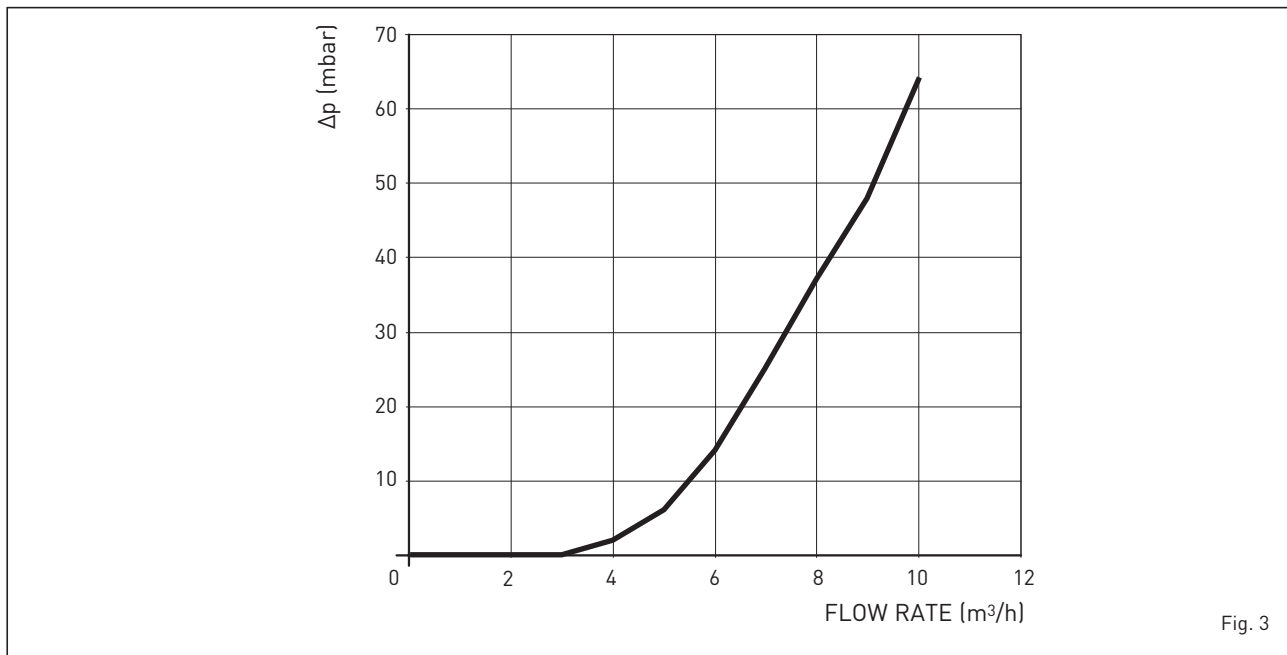

Fig. 3
1.5 LOAD LOSS IN HYDRAULIC SEPARATOR SUPPLIED UPON REQUEST IN KITS CODE 8101550 (fig. 3)
1.6 TECHNICAL DATA PLATE (fig. 3/a)